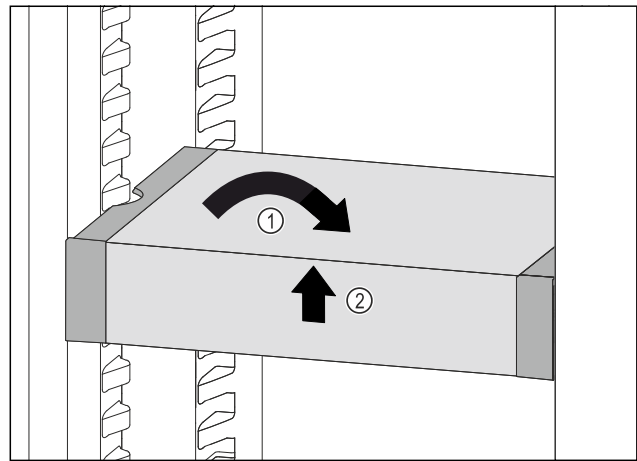

Fig. 115
- ▶ Set VarioSafe straight. *Fig. 115 (1)*
- ▶ Lift VarioSafe at the front. *Fig. 115 (2)*